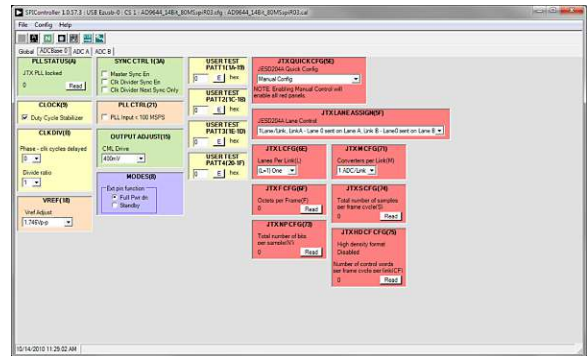
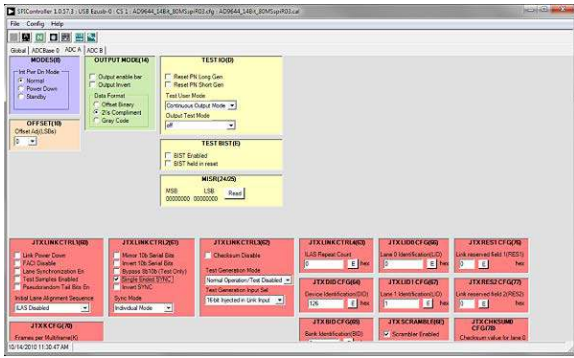

Figure 11. SPI Controller, CLKDIV(B) Box
Figure 12. SPI Controller, Example ADC A Tab
3. In the **ADCBase 0** tab of the **SPIController** window, find the **CLKDIV(B)** box (see Figure 11). If using the clock divider, use the drop-down box to select the correct clock divide ratio, if necessary. See the AD9644 or AD9641 data sheet; the AN-878 Application Note, High Speed ADC SPI Control Software; and the AN-877 Application Note, Interfacing to High Speed ADCs via SPI, for additional information.
5. Note that other settings can be changed on the **ADCBase 0** tab (see Figure 11) and the **ADC A** and **ADC B** tabs (see Figure 12) to set up the part in the desired mode. The **ADCBase 0** tab settings affect the entire part, whereas the settings on the **ADC A** and **ADC B** tabs affect the selected channel only. Note that for the AD9641, only the **ADCBase0** and **ADC A** tabs are available because the device is a single-channel ADC. See the AD9644 or AD9641 data sheet; the AN-878 Application Note, High Speed ADC SPI Control Software; and the AN-877 Application Note, Interfacing to High Speed ADCs via SPI, for additional information on the available settings.
6. Set the single-ended **SYNC** check box in the **JTX LINK CTRL2** box on both the **ADC A** and **ADC B** tabs (or on only the **ADC A** tab for the AD9641) as shown in Figure 12. This sets the JESD input syncs to operate in singled-ended CMOS mode for compatibility with the FPGA configuration.